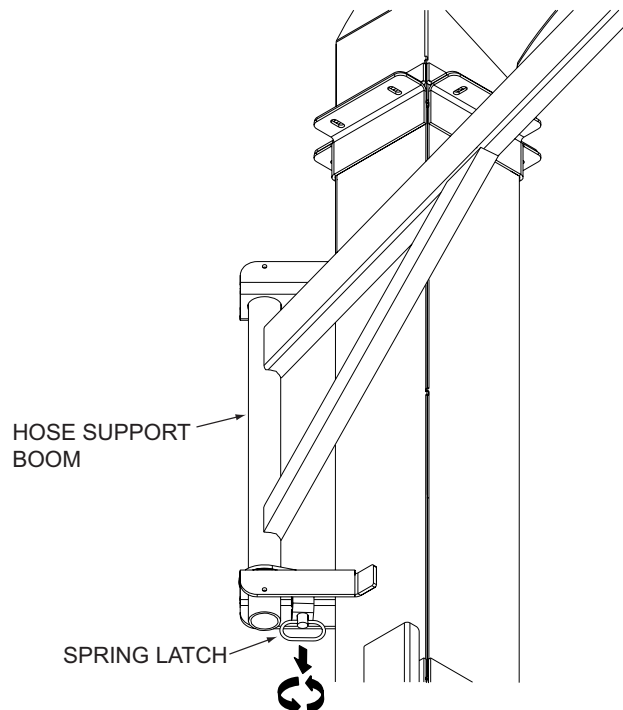
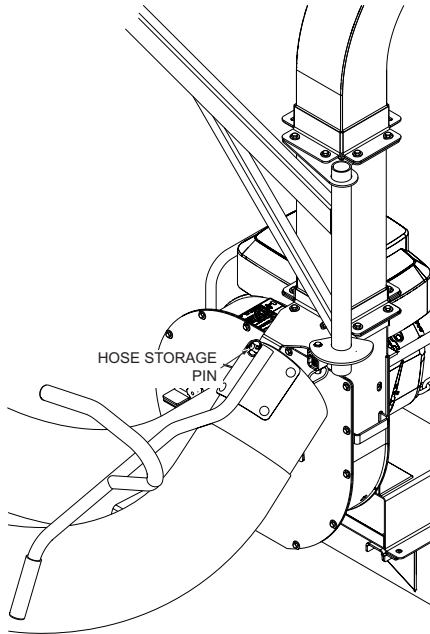

Figure 4-2. Locking the Hose Support Boom
Figure 4-3. Hose Storage Pin
1. When machine is not in operation or in storage, lock the hose support boom and secure hose on the storage pin. Pull and turn the spring latch to lock the pin securing the hose support boom in the transport position. See Figure 4-2 & Figure 4-3.